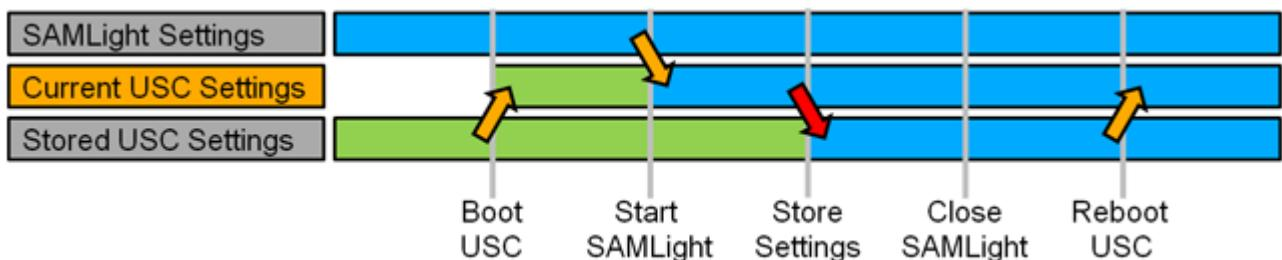
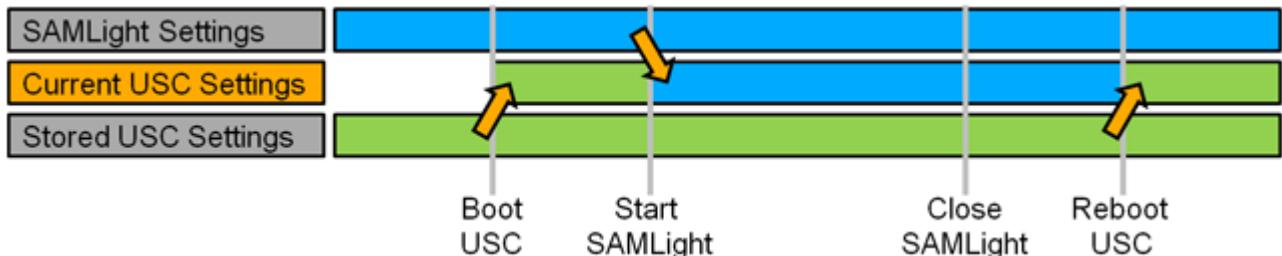

Figure 354: Correct handling: SAMLight and USC settings with proper storing
Figure 355: Common mistake: SAMLight and USC settings without storing leading to change of settings after reboot
- **1: Store settings:** For standalone mode, the USC settings are used. Therefore, it is necessary to store the SAMLight settings on the USC card via the Store button. Please refer to figure 354 and figure 355.
The current USC settings on the USC card change with different events, see figure 354:
- To avoid loss of these current USC settings after reboot of the USC card (see Fig.355), the current settings need to be stored. Storing the settings on the USC card can be done via the Store.
The current USC settings on the USC card change with different events, see figure 355: